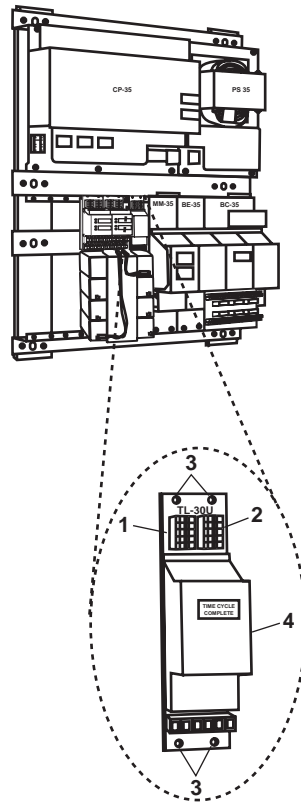

Figure 4. Time Delay Module TL-30U Replacement
2. Label and disconnect the electrical wiring from P1 (figure 4, item 1) and P2 (figure 4, item 2).
3. Remove the four screws (figure 4, item 3) that secure time delay module TL-30U (figure 4, item 4), and remove it from the enclosure.
1. Position time delay module TL-30U (figure 4, item 4) in the enclosure and secure it with the four screws (figure 4, item 3).
2. Connect the electrical wiring to P1 (figure 4, item 1) and P2 (figure 4, item 2) using the labels from step 2 of Removal as a guide. Remove the labels.